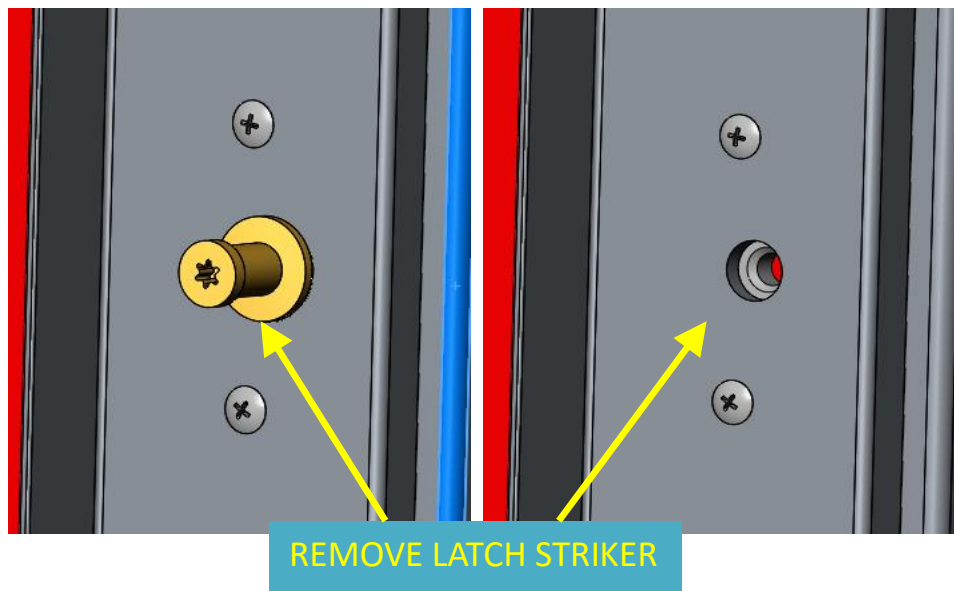

FIG16-2
15. Remove the door latch striker: P.N. 0550-EE3-001. Refer to FIG. 16-2